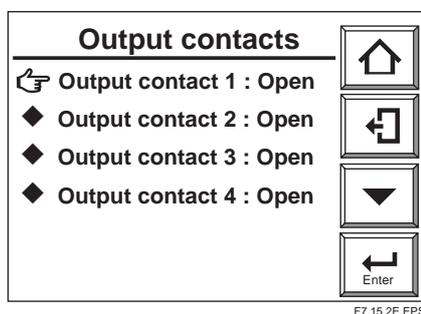

Figure 7.15.2 Output Contact Check Panel Display
- (1) Press the Setup key in the basic panel display to display the Execution/Setup display. Select Maintenance in that display.
- (2) Select Contact check then Contact output in the Maintenance panel display to display the Output contacts display (see Figure 7.15.2).
- (3) Select the desired output contact for checking. The display, which enables the closing and opening of contacts, then appears. Use the display to conduct continuity checking.